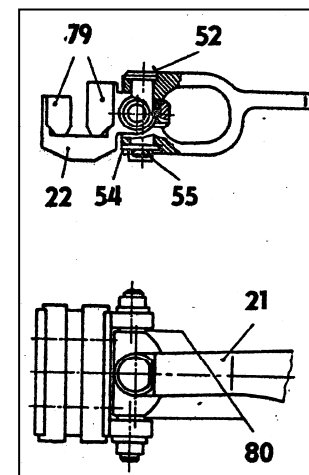

FIGURE 12-30
G. Carbon block assembly exchange (figure 12-30)